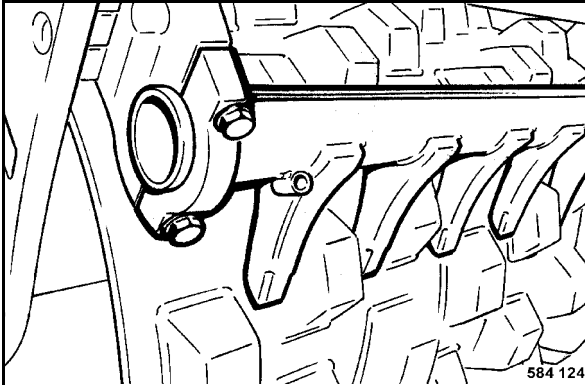

Fig. 194
- Check adjustment and condition of scrapers (Fig. 194), adjust or replace the teeth if necessary.